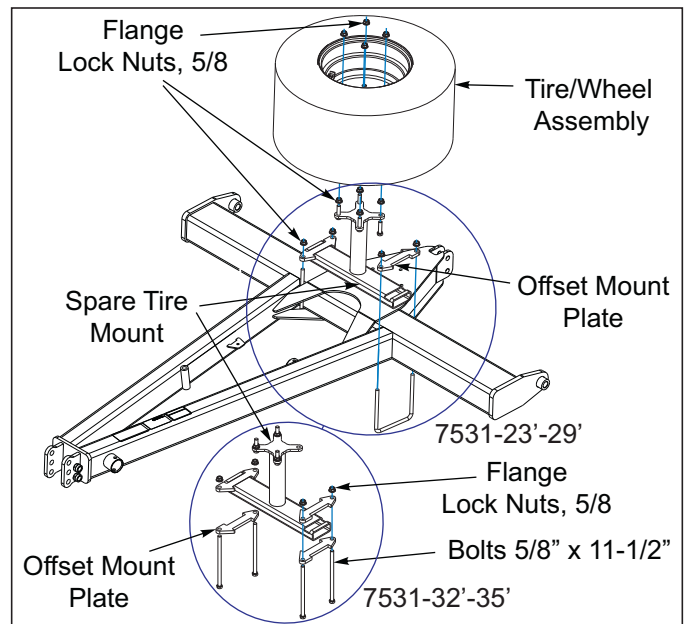

Figure 3-3: Spare Tire Assembly
1. Attach spare tire assembly to rear of hitch as shown *See Figure 3-3.*